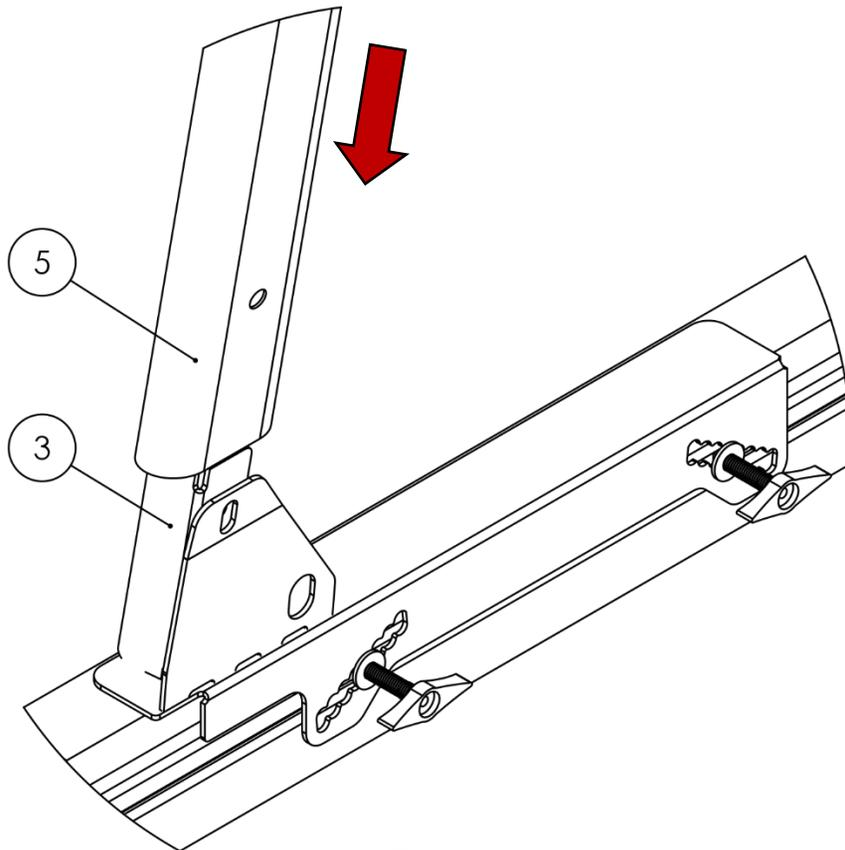

Figure 5
3. **Attach the Legs to the Bases.** Examine the Legs (**Item No. 5**) and locate the pre-drilled holes on the inside of each leg. As shown in **Figure 5**, slide the leg down and align it so that its hole matches with the holes found on the Base Rail Assembly (**Item No. 3**).